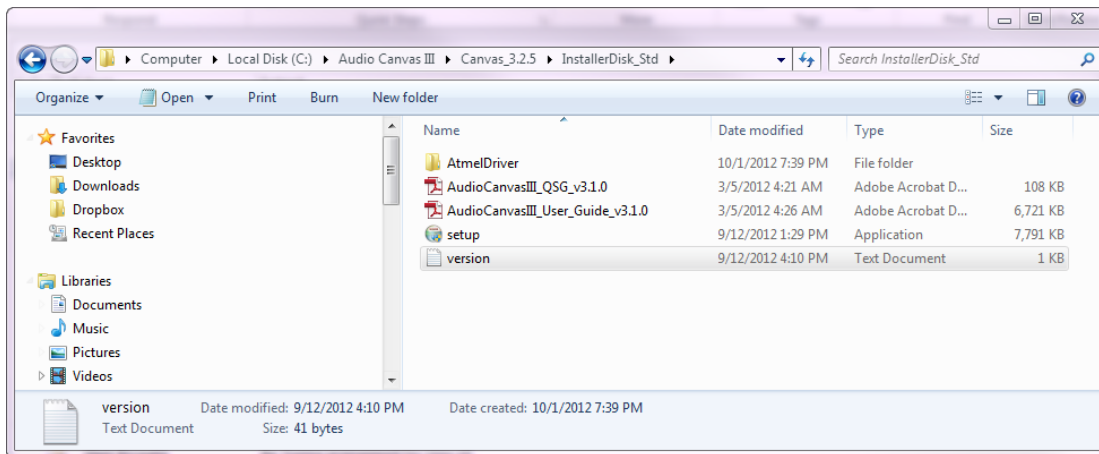
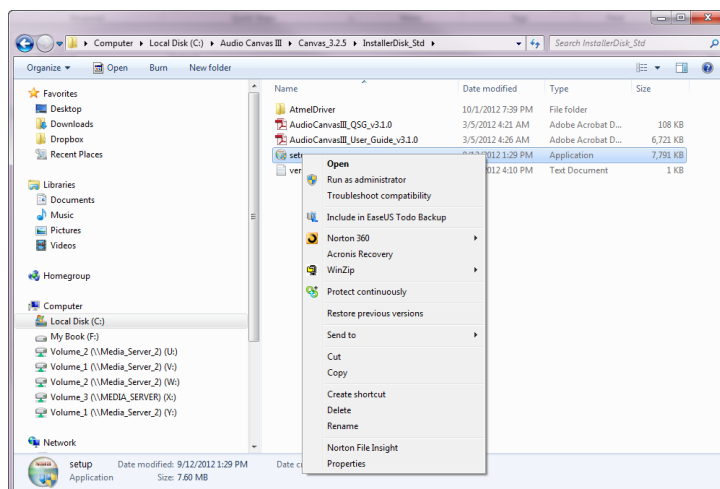

Figure A1: InstallerDisk\_Std Folder Contents
Figure A2: Right-Click and Select “Run as Administrator”
3. From the Audio Canvas III Folder, locate the “Setup” program in the “InstallerDisk\_Std” Folder as shown below in Figure A1. When installing under Windows 8 or Windows 10, right-click on the “Setup” program and select “Run as Administrator” as in Figure A2. If asked whether you wish to continue with the installation, select “Yes.”